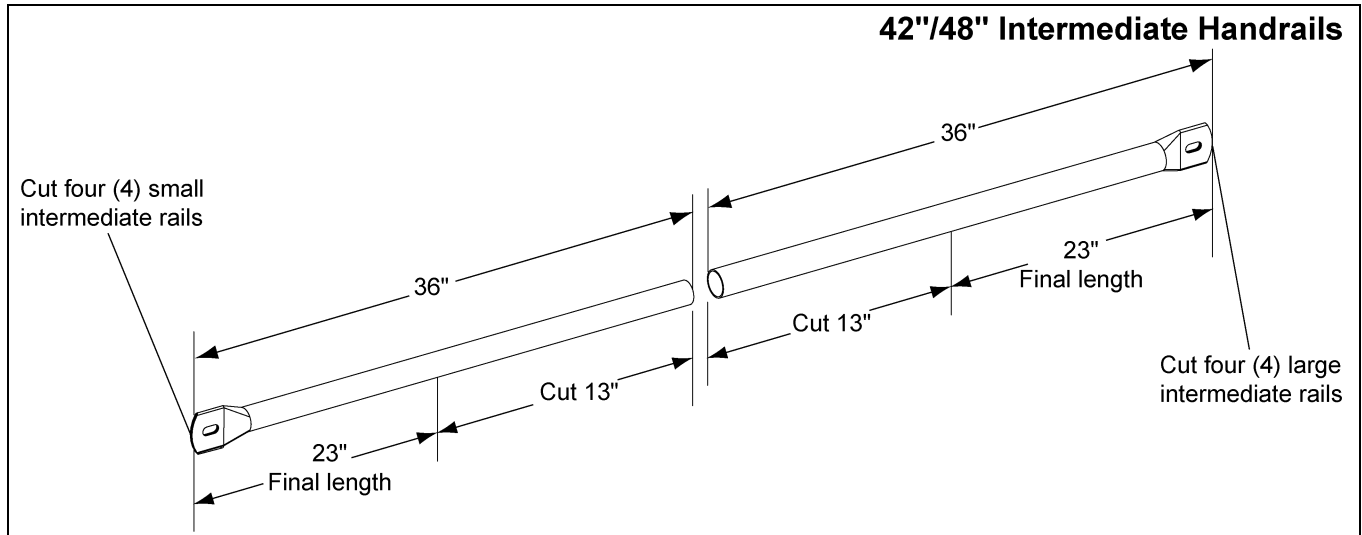

Figure 7K 42"/48" Intermediate Handrails
Two (2) of the small intermediate handrails (LDR-4088) and two (2) of the large intermediate handrails (LDR-4087) will need to be cut to fit. The starting length of each handrail is 36". Cut 13" off the end of each rail so the final length of each rail is 23". (See Figure 7K.)